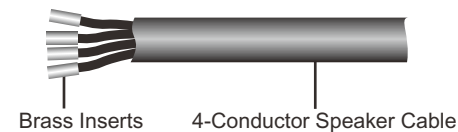

figure 7
1. Strip back 3/4-inch of the cable casing. Strip off 1/4-inch from the end of each of the conductors down to bare wire, and insert the brass fittings (Figure 7).